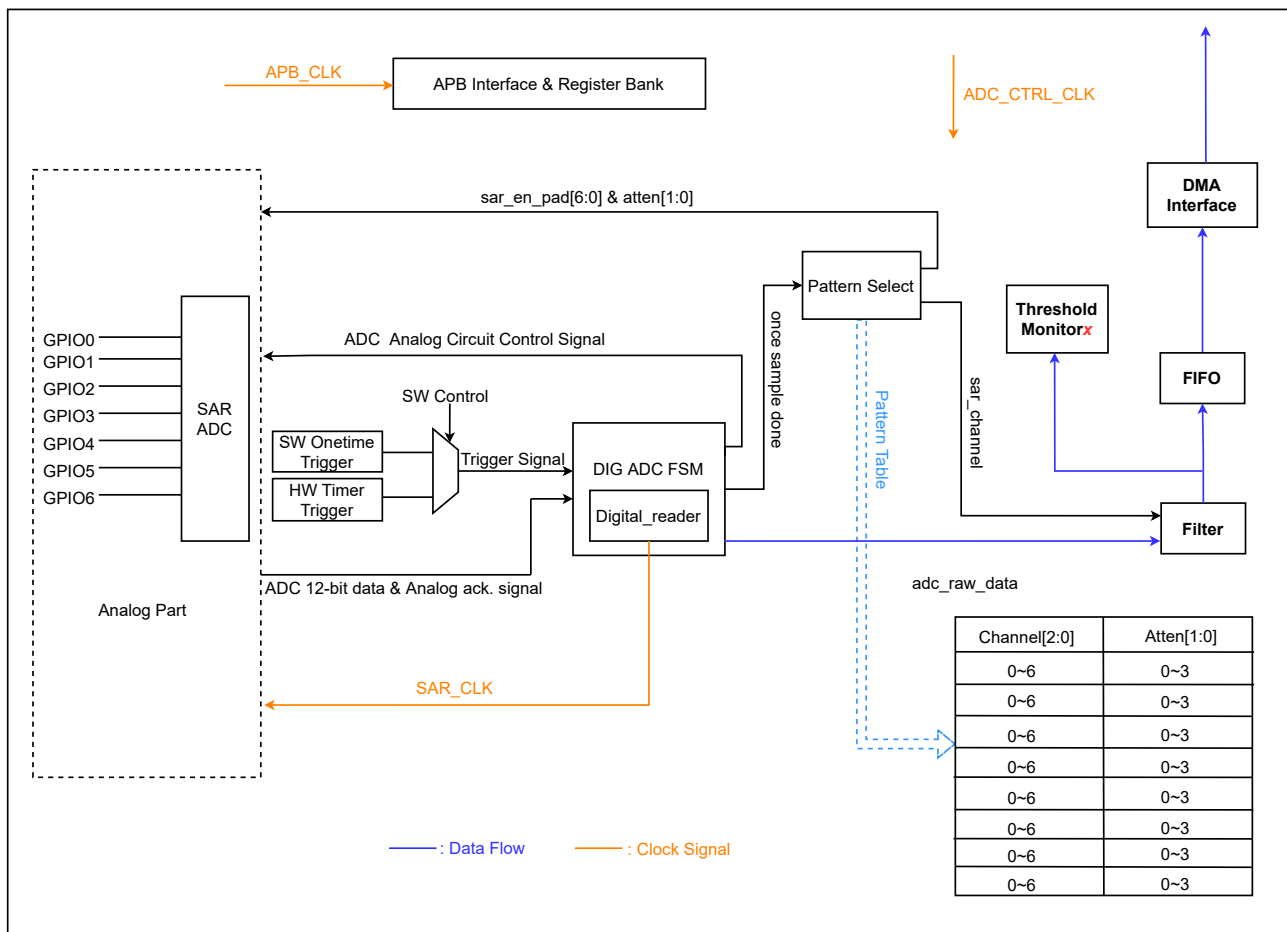

Figure 38-1. SAR ADCs Function Overview
The major components of SAR ADC and their interconnections are shown in Figure 38-1.
As shown in Figure 38-1, the SAR ADC module provides the following functions and consists of the following components:
- Transfer the data to the filter, and then threshold monitor transfers the data to memory via DMA (see Figure 38-1).